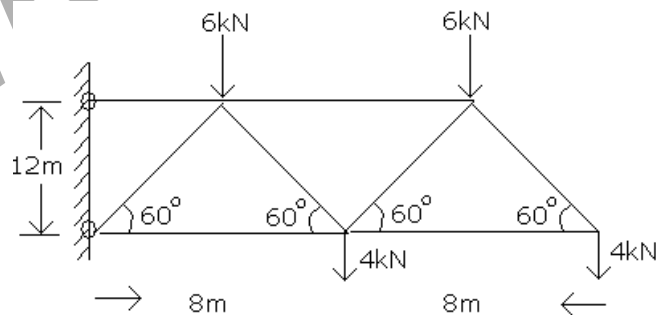

Figure 4
- Find the forces in all the members of the warrentype Cantilever truss shown in Figure 4 by the method of sections. Tabulate the values. [16]